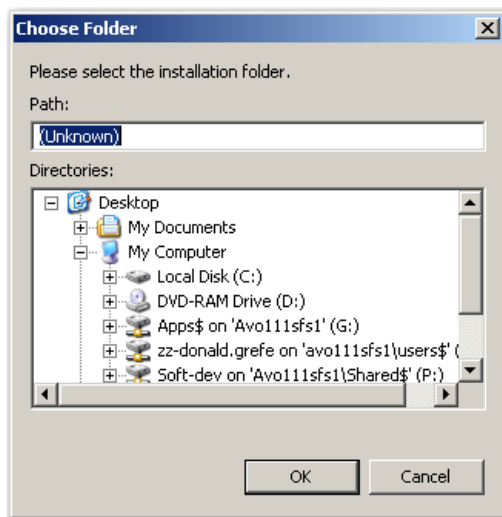

Figure 18 - Choose Folder
7. Click **Change** and the *Choose Folder* dialog appears (*Figure 18*).